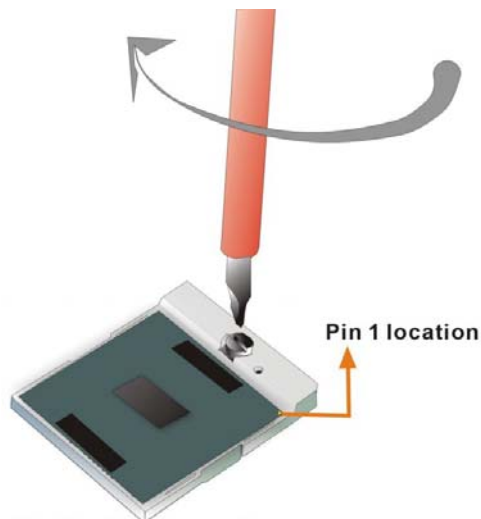

Figure 4-2: Lock the CPU Socket Retention Screw
- Step 7: Lock the retention screw.** Rotate the retention screw into the locked position. See **Figure 4-2**.